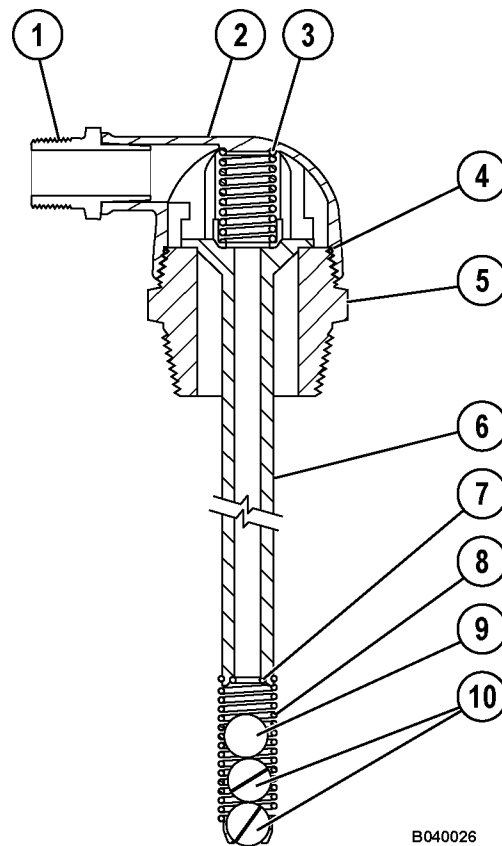

FIGURE 4-2. BREATHER VALVE
1. Remove fitting (1, Figure 4-2).
2. Remove ball cage (8), solid ball (9) and float balls (10).
3. Unscrew end fitting (5) from body (2).
4. Remove stem (6) and valve spring (3).